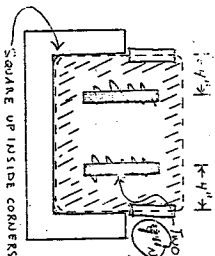

FIG. 1
Note that the existing fuel tank support brackets have rounded inside corners to conform to the shape of the old tank. These have to be routed or chiseled out to fit the square sides of the new tank. See Fig. 1.
5. Install two 4" strips of adhesive backed neoprene to the aft fuel tank bulkhead as shown in Fig. 1. Install two 4" neoprene strips to the engine compartment bulkhead in the same manner. This is necessary to provide abrasion resistance for the new fuel tank in accordance with U.S. Coast Guard Regulations.